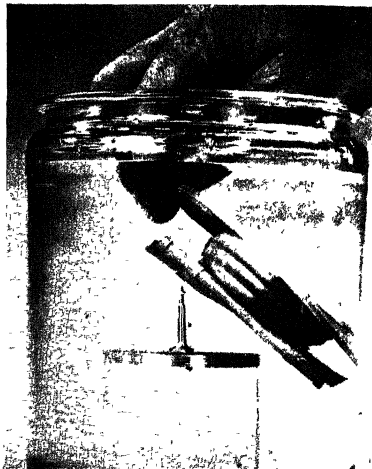

Figure 10-21.—Mounting the float for a balance test.
10. To remove bubbles from under the compass card and the cone section of the float, immerse the float edgewise in the compass liquid in the jar, as illustrated in figure 10-21. Then ease the float onto the pivot.